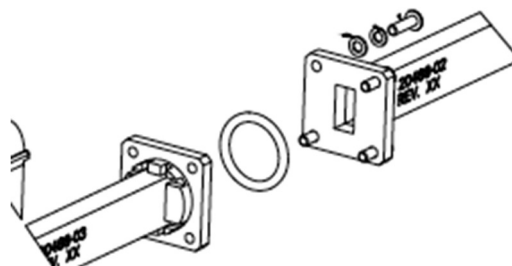

Figure 3 O-Ring Installation
5. Installation of all O-Rings (Packing) **shall** be accomplished in accordance with the installation design and manufacturer instructions. Not installing the appropriate O-Ring will cause degraded system performance. See Figure 3 for an example of an O-Ring installation.